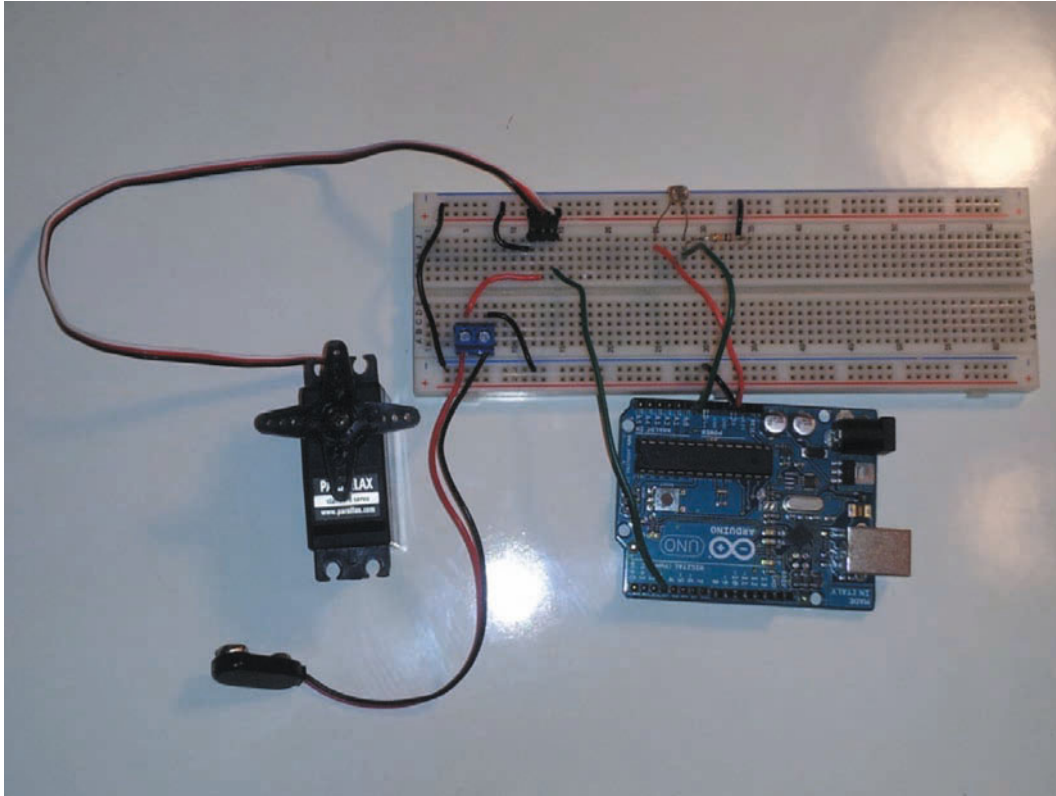

Figure 27-15. *The final Challenge 7 gizmo!*
14. Figure 27-15 shows the final gizmo (minus the battery power or USB cable being connected).